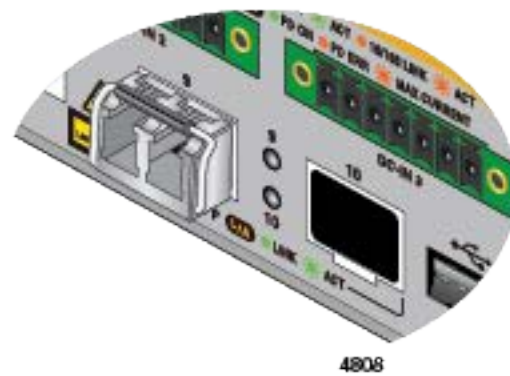

Figure 59. SFP Transceiver Clicking into Place
4. Slide the transceiver into the port until it clicks into place. Refer to Figure 59.